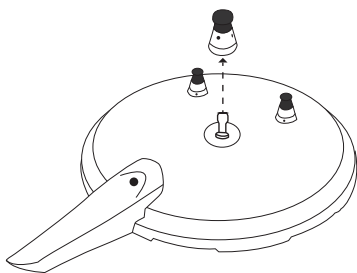

Figure No. 7
- Special dismantling as follow: (Figure No. 7)